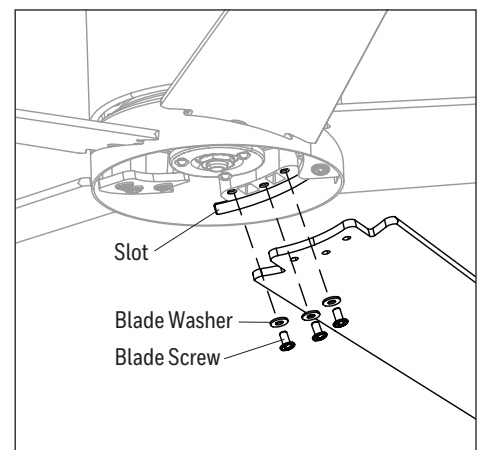

Figure 4.3
3. Insert blade through slot in the side of the motor assembly. Align the holes of one blade with three blade screw holes in underside of the motor assembly. Secure with the three blade screws and blade washers. Repeat this step for the remaining blades (Figure 4.3).